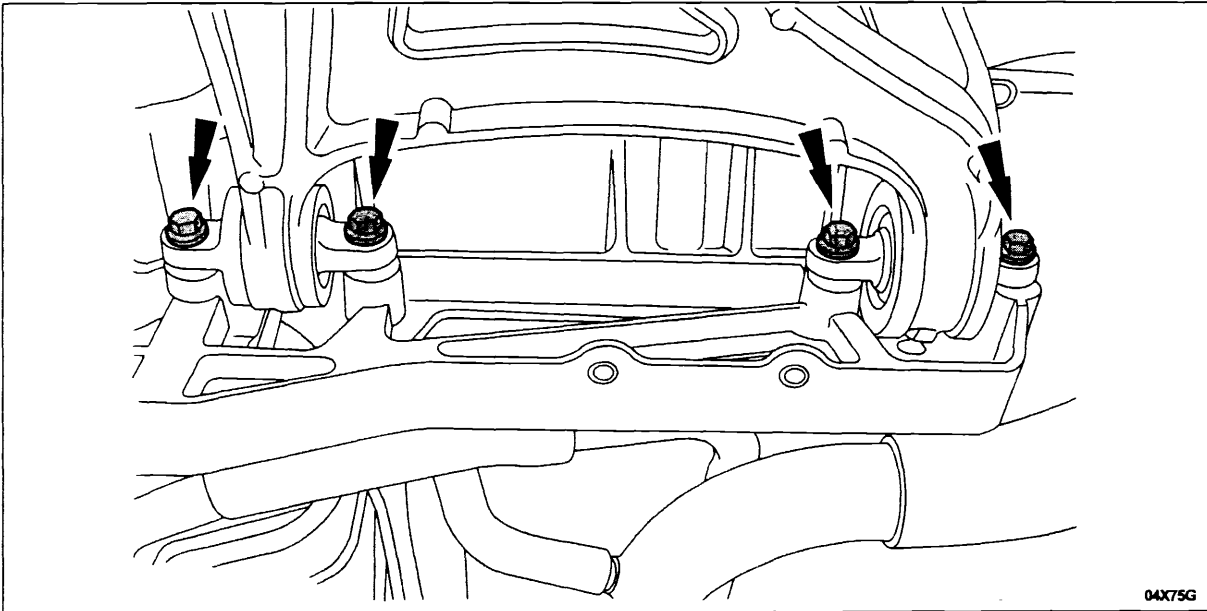

FIGURE 7
While pushing down on the lower control arm, remove the two (2) inner lower control arm-to-frame bolts and washers. Then, release the arm and remove the two (2) outer bolts and washers and remove the lower control arm from the vehicle. See Figure 7.